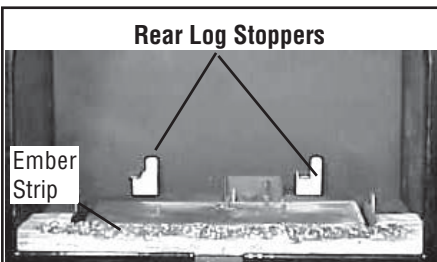
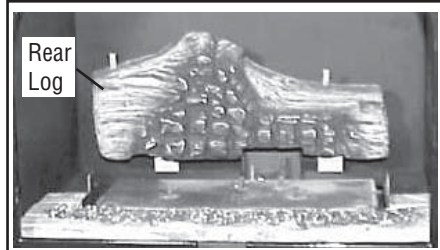

Figure 9
Figure 10
1. Place the ember strip in front of the burner as shown in Figure 9. It should be positioned all the way back (toward the sub-floor front flange).
2. Place the largest log onto the rear log stoppers (see Figure 9). Ensure that the grooves on the bottom of the log aligns onto the corresponding places on the rear log stoppers. Push the log back so that it is against the back of the rear log stoppers (see Figure 10).